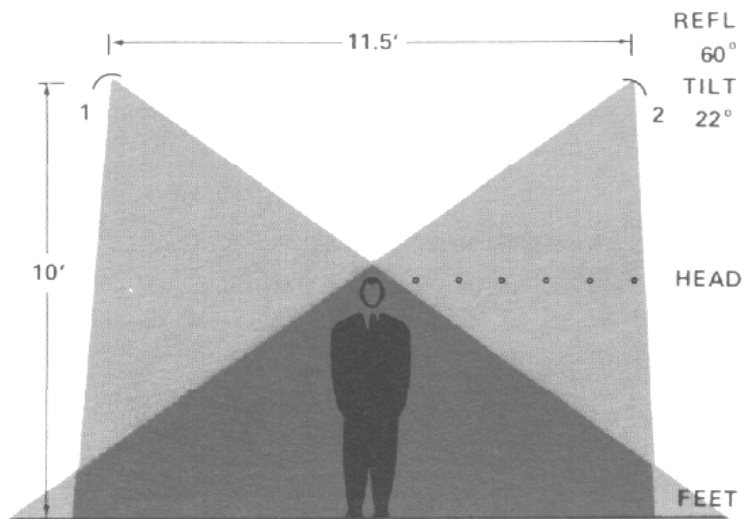

Figure 4: Typical Infrared Heating Pattern
4. Determine the area to be heated. This is termed the “design area” (A_d). (See Figure 4.)